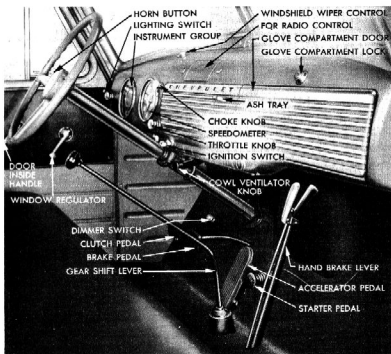
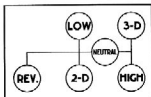
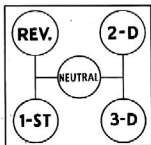

Fig. 2—Controls and Instruments—1½ and 2 Ton
Fig. 11—Four Speed Transmission Shifting Diagram
Fig. 12—Three-Speed Transmission Shifting Diagram
is mounted at the rear of the transmission. The brake is hand operated with the lever extending up through the floor to the right of the gearshift lever on 1½ and 2 ton except C.O.E. (fig. 2). On C.O.E., the hand lever is to the left of the clutch pedal. Pulling the parking brake lever back, applies the propeller shaft brake by means of mechanical linkage. To release the brakes, grip the two sections of the handle and pull lever back slightly, then move it forward.
Gearshift Lever (4-speed Synchro-mesh Transmission) extends to the left and back from transmission cover dome at center of floor (fig. 2). This lever is used to shift the transmission gears to the desired position. Figure 11 shows the lever knob positions when the transmission is in neutral, reverse and the four forward speeds. To shift the transmission into any of the forward speeds, disengage the clutch, move the lever across neutral to right or left as desired, and then forward or back into gear.
Figure 12 shows the gearshift pattern in neutral, reverse and three forward speeds. To shift into any gear position, disengage the clutch, move the shift lever up
2. Move gearshift lever into low gear position. (If 4-speed transmission see Figure 11, or if 3-speed transmission see Figure 12.)
1. Depress clutch pedal and release accelerator at the same time. Move the shift lever into neutral and then to the next higher gear. See shifting diagrams, Figures 11 and 12.
2. Move shift lever across neutral to left, against the spring tension as far as it will go. Move lever back into reverse (fig. 11).
2. Raise shift lever up across neutral and forward into reverse position. (fig. 12).